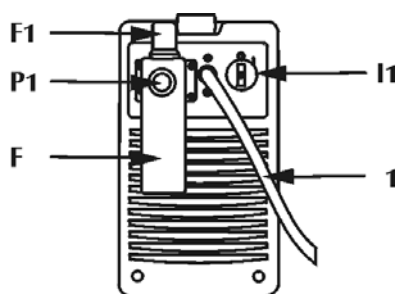

Fig.2
Comes on with the start switch (Fig.2) "I1" in position "I" and indicates that the plant is on and there is voltage.
4.2 Rear control panel (Fig. 2)
2. Connect up the compressed air supply with a 1/4 inch to the air inlet P1 in the filter unit F (Fig.2). The pressure must ensure at least 5 bars with a flow rate of at least 200 litres a minute.
If operating faults occur in the generator it will be inhibited until normal operating conditions are restored. Press the gas test pushbutton (T2 in Fig 1) in order to remove residual impurities from the compressed air circuit, then lift and turn the knob to adjust the pressure (F1 Fig.2) until the display D2 shows a pressure reading of 5 bars (carry out the operation keeping the gas test button pressed down, so as to make the adjustment with air circulating in the piping).